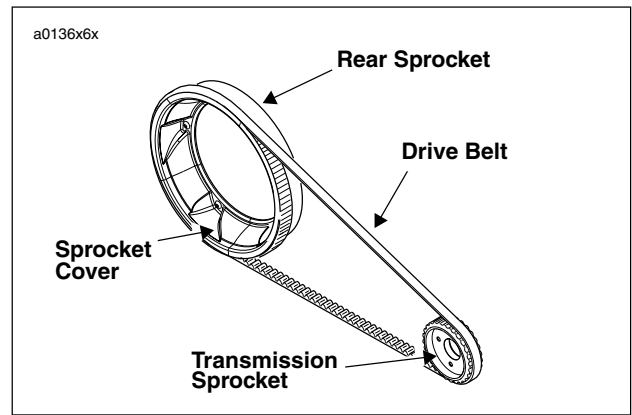

Figure 1-17. Drive Belt Assembly
1. See Figure 1-17. Inspect each tooth of rear sprocket for: